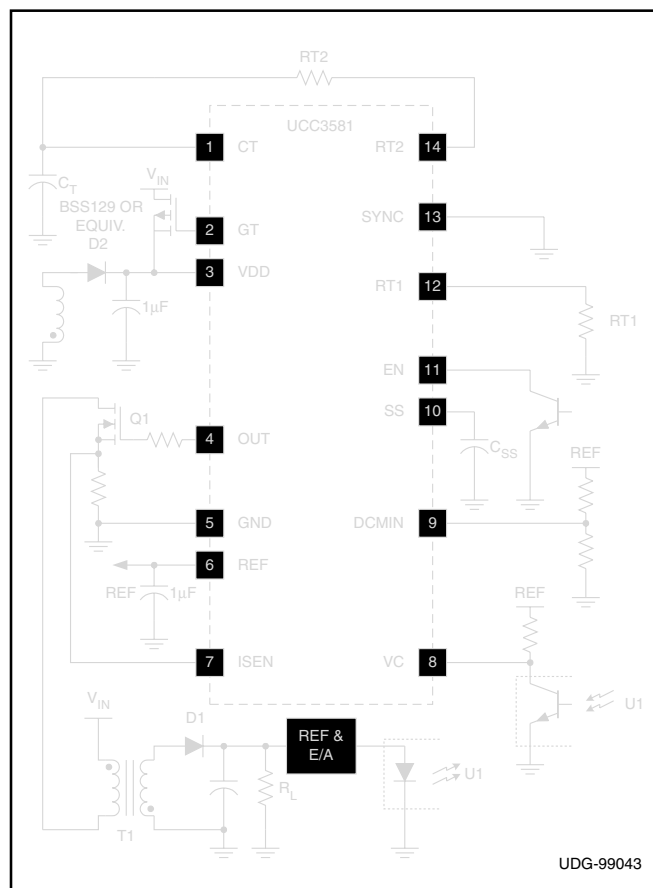

Figure 1. Application diagram.
See Application Diagram Fig. 1.
**RT2:** Resistor pin to program oscillator discharge time. The minimum value of RT2 is 10kΩ See Application Diagram Fig. 1.
The UCC3581's oscillator allows the user the flexibility to program the frequency and the duty cycle by adjusting two resistors and a capacitor. Application Diagram Fig. 1 shows these components as RT1, RT2, and CT. RT1 programs the timing capacitor charging current which results in a linear ramp charging CT. Discharge of CT is accomplished through RT2 which results in a standard RC discharge waveform. The oscillator on-time (CT charging) is calculated by the formula